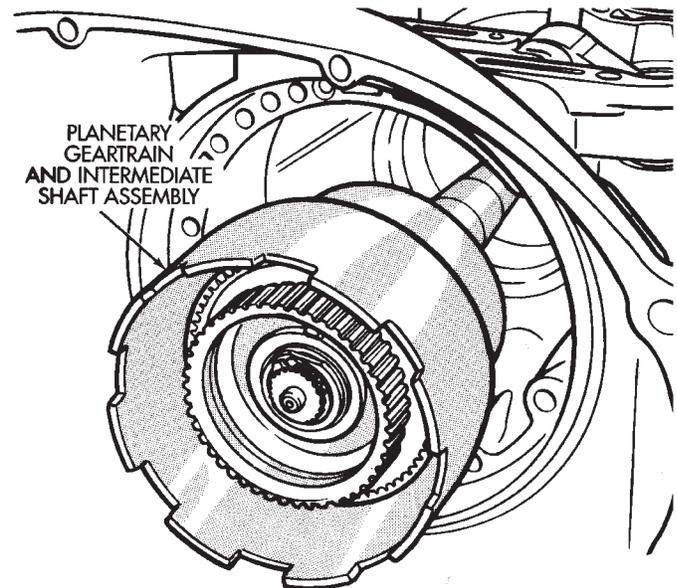

Fig. 126 Removing Planetary Geartrain And Intermediate Shaft Assembly
(27) Remove planetary geartrain as assembly (Fig. 126). Support geartrain with both hands during removal. Do not allow machined surfaces on interme-